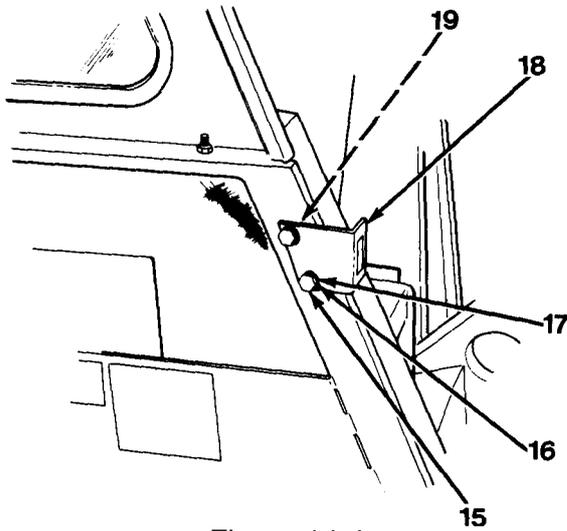

Figure 14-4
7. Remove two capscrews (15), lockwashers (16), washers (17), striker (18) and shims (19, Figure 14-4).